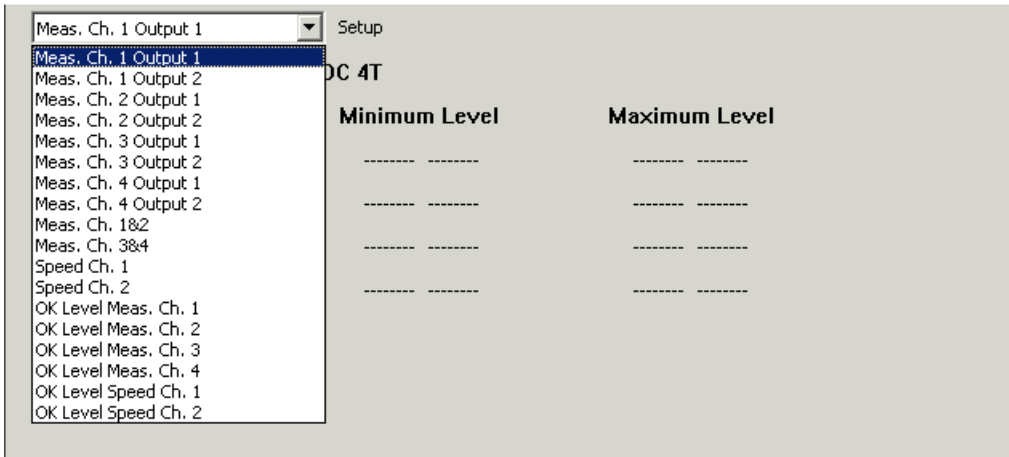

Figure 10-6: Setup combo box showing signals that can be chosen
- 1- Click the **Setup** combo box to show the list of signals that can be chosen (Figure 10-6). Measurement channels, speed channels and OK values may be chosen.
- 1- Select the signal again from the **Setup** combo box (Figure 10-6).